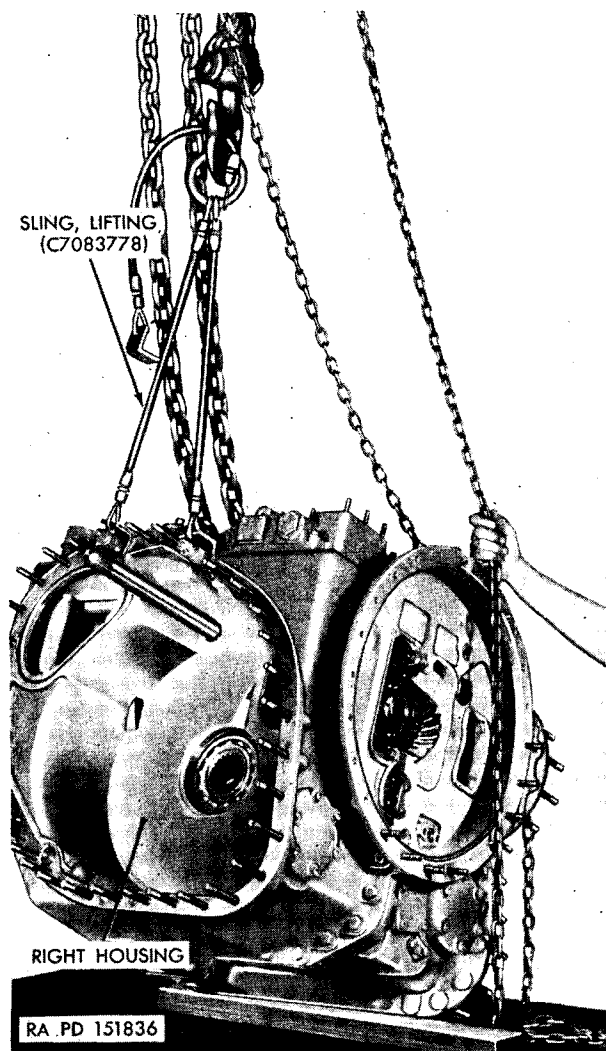
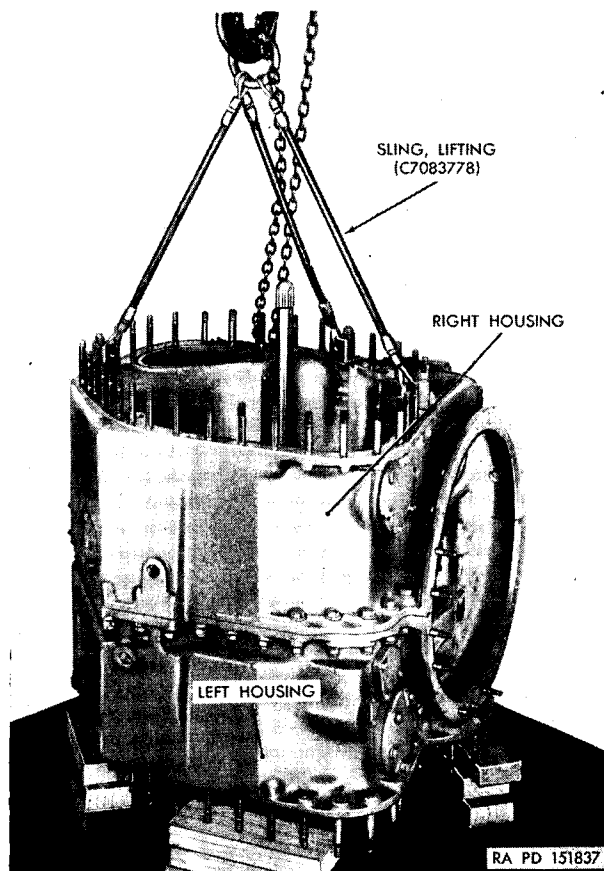

Figure 97. Tipping transmission housings.
Figure 98. Transmission housings resting on blocks.
- (1) Attach the lifting sling (C7083778) to the right housing and raise the assembly with a hoist (fig. 97). Lower the assembly so the left end rests on wooden blocks which have been built high enough to clear the steering clutch shaft (fig. 98).